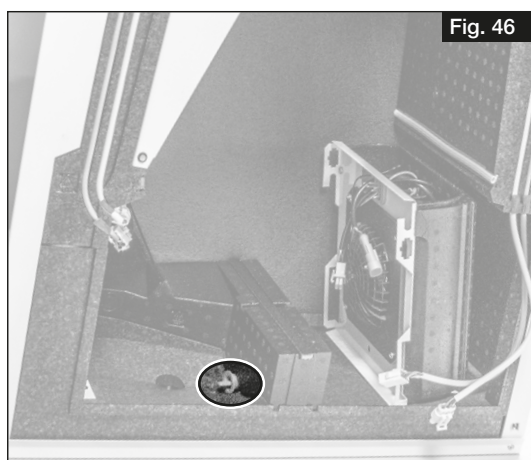

Fig. 46
- ① **If the cold recovery system is activated, the plug at the bottom of the unit must be removed (see Fig. 46) to ensure the condensate drainage (see also chapter 4.3 „Install ball siphon“, page 12).**